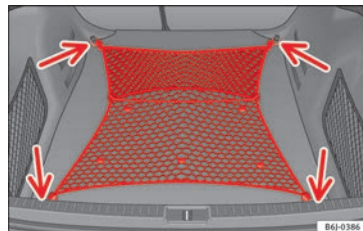

Fig. 158 Stretched luggage net.
- Secure the luggage net to the four fastening rings » **Fig. 158** (arrows).